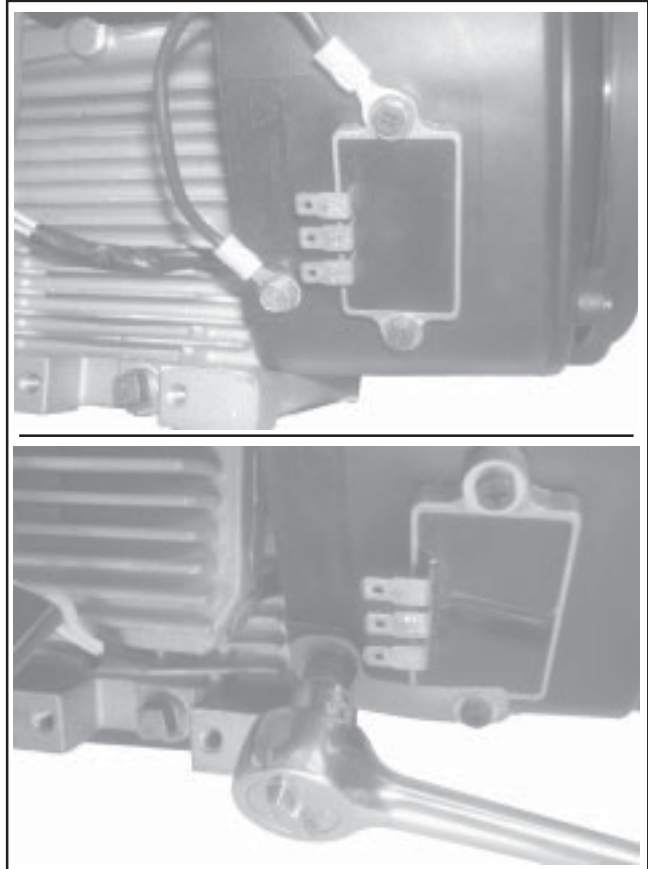

Figure 11-64. Ground Lead Details.
4. If the rectifier-regulator was not removed, attach the ground wire or metal grounding bracket for the rectifier-regulator, using the silver colored screw and washer, to the lower blower housing hole. See Figure 11-64.